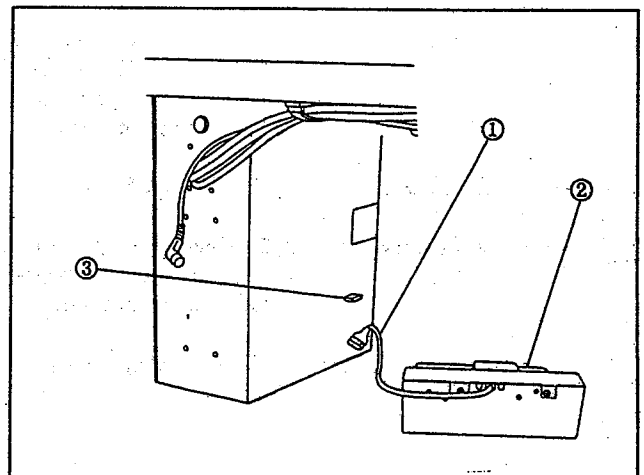

Fig. 4
4. CONNECTING CORD FOR FOOT PEDAL (Fig.4)